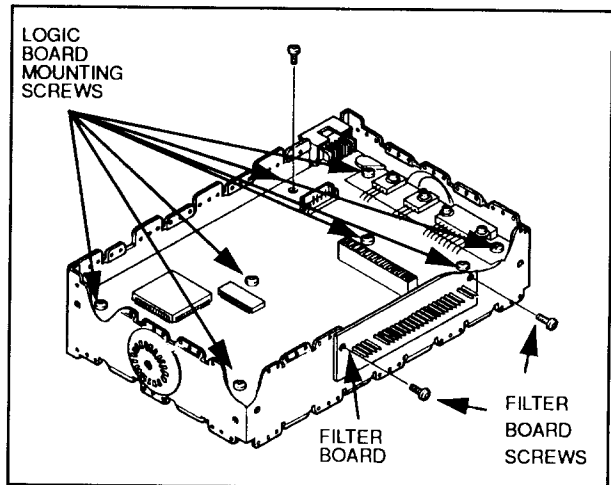

Figure 6.
(1) After the RF board has been removed, turn the radio over and pry off the logic shield, again being careful not to bend any one corner or side.
(2) Remove all logic board mounting screws (figure 6).
(3) Now remove the two filter board screws from the front of the chassis (figure 6). The logic and filter boards can now be lifted out of the chassis.